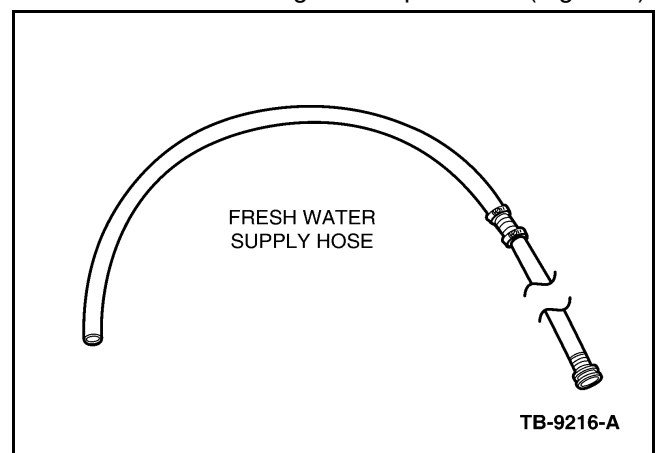

Figure 2 - Article 10-7-5
- b. Using a 3/4" (19 mm) coupling adapter and hose clamps, cut the garden hose to length (the hose must reach from the vehicle to a fresh water supply faucet). Attach a 2' (61 cm) length of heater hose to the garden hose to be used as the fresh water supply. The heater hose will prevent kinking in tight areas of the engine compartment. (Figure 2)